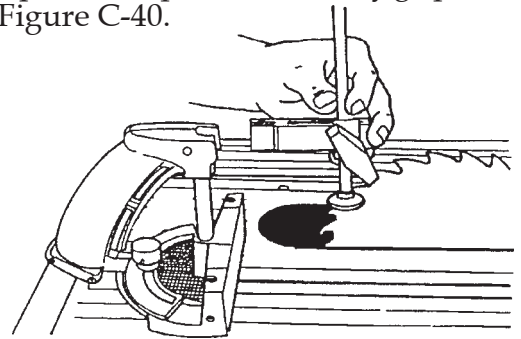

Figure C-40
40. Place the miter gauge in the right miter gauge slot, and use a 5/32" Allen wrench to remove the quick clamp from the safety grip, as shown in Figure C-40.